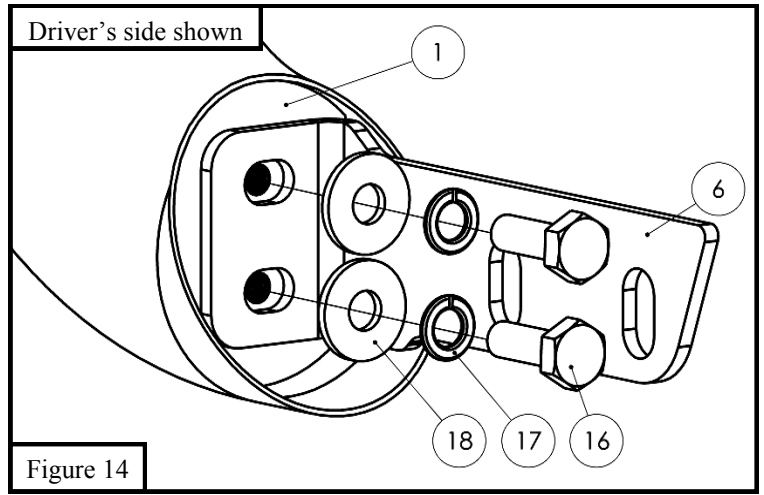

Figure 14
- Loosely install the lower mounting brackets (6 & 7) onto bull bar using provided M10 hardware (16-18). Refer to **Figure 14**. *Note:* Driver's side shown.